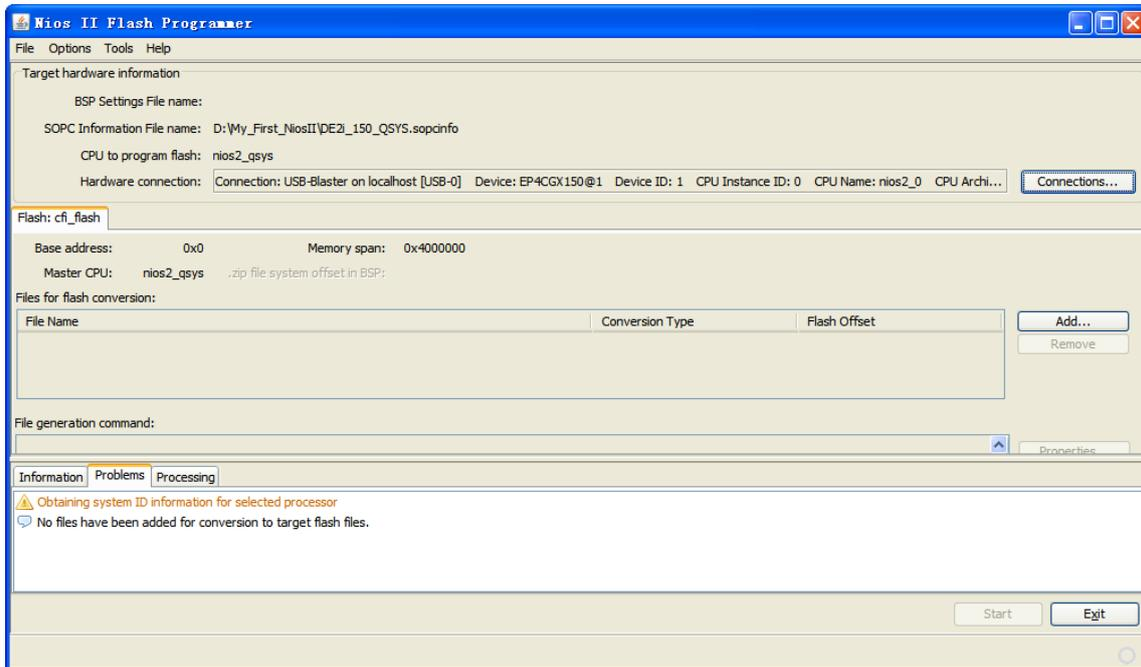
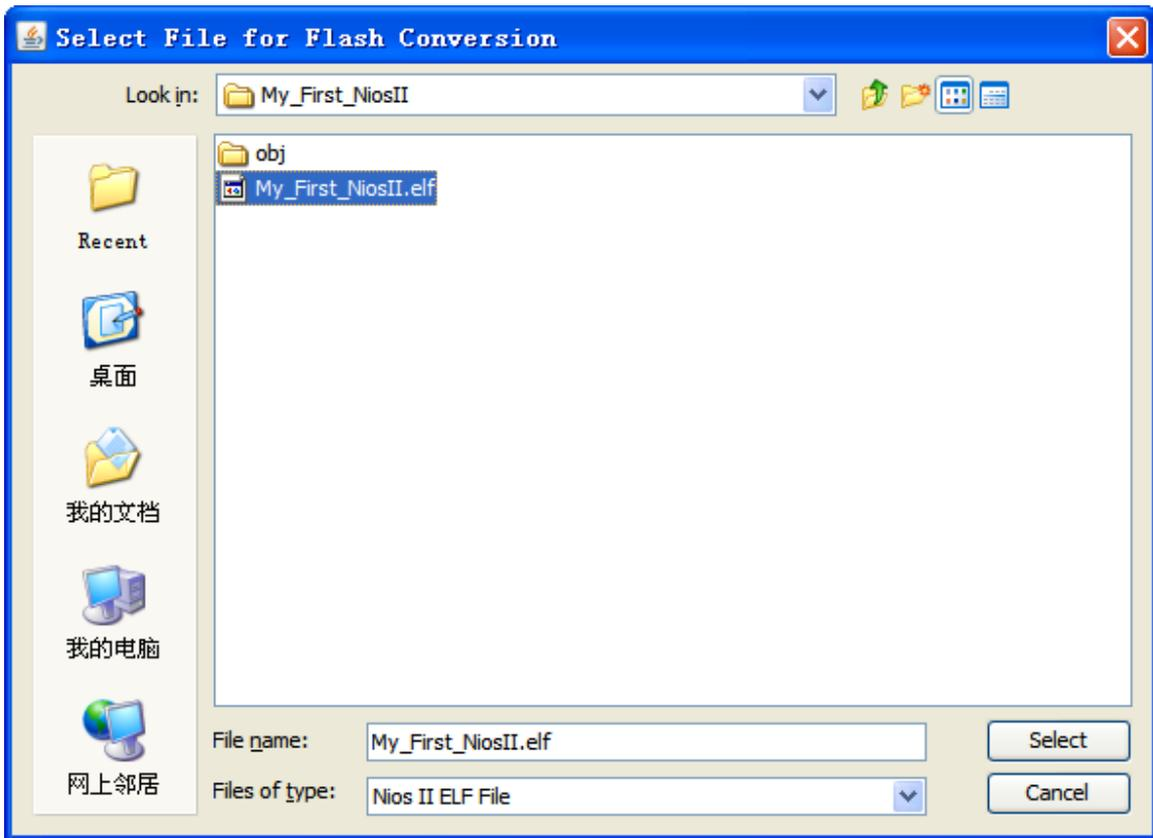

Figure 3-27 Back Nios II Flash Programmer
Figure 3-28 Add File for Flash Conversion
5. Click ok to back the Nios II Flash Programmer box as shown in Figure 3-27, and click add.. to select file to Flash Conversion as shown in Figure 3-28.